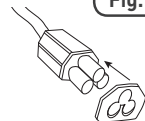

Fig.1
- ⚠️ WHEN USING THE HEATER IN AN AREA WHERE IT MAY COME INTO CONTACT WITH WATER, AND TO ENSURE IT'S IP44 RATING IS MAINTAINED - ALWAYS ENSURE THAT THE POWER CABLE HAS THE BLACK FOAM GASKET IN PLACE ON THE CONNECTOR END BEFORE PLUGGING IT INTO THE SLIMLINE HEATER [FIG.1]